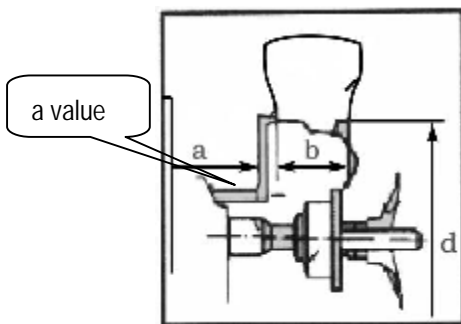

Fig 11
- I Pull out the measure scale into contact with the inside wall of the wheel rim, the display information on the control panel will go out because of the instable data (Fig 11).